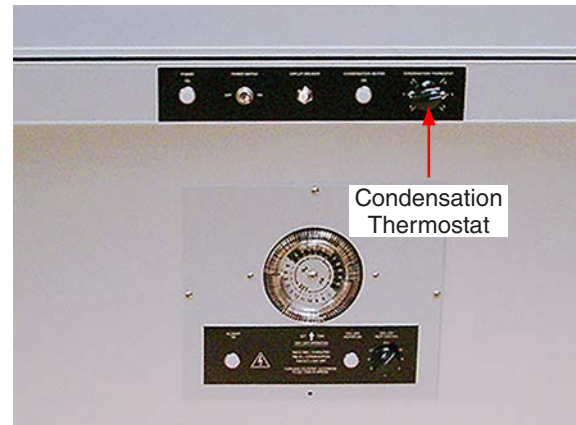

Figure 7.5b: Condensation thermostat location.
- The condensation thermostat (Figure 7.5b) is used to set condensation temperature.